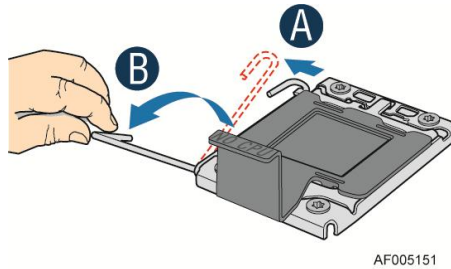

Figure 27. Installing Processor – Open the Socket Lever
2. Open the socket lever, see Figure 27.